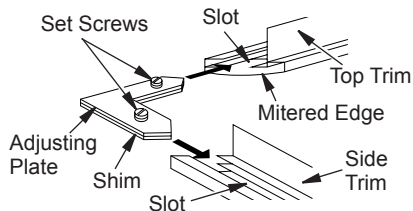

Figure 14 - Assembling Perimeter Trim
4. Slide one end of adjusting plate/shim in slot on mitered edge of top trim (see Figure 14).
5. Slide other end of adjusting plate/shim in slot on mitered edge of side trim (see Figure 14).
3. Align shim under adjusting plate as shown in Figure 14.